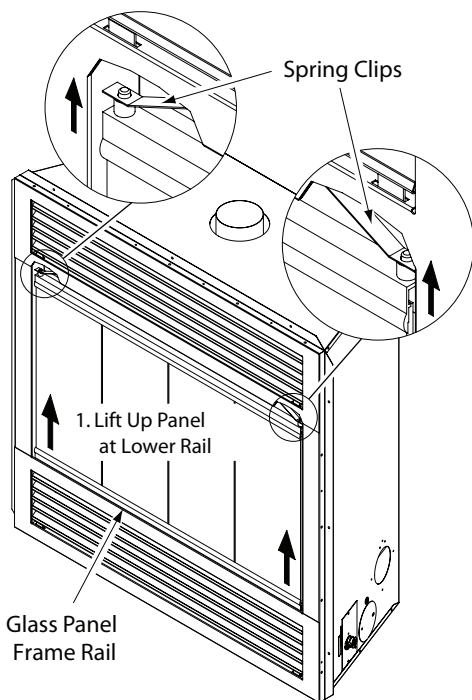

Figure 26 - Removing/Replacing Glass Door
1. Placing a screw driver or your finger tips into gap between lower glass panel rail and bottom face frame, lift glass door assembly until door pins clear locating holes in bottom face frame (see Figure 26, page 16).